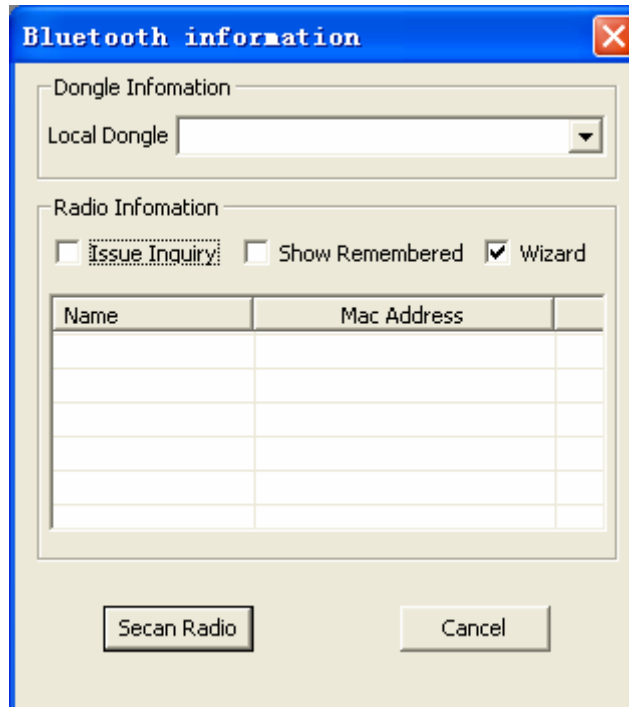

Figure 3-24
(3). Select “Wizard” in the interface as shown in Figure 3-24, the following operations are the same as the first method.